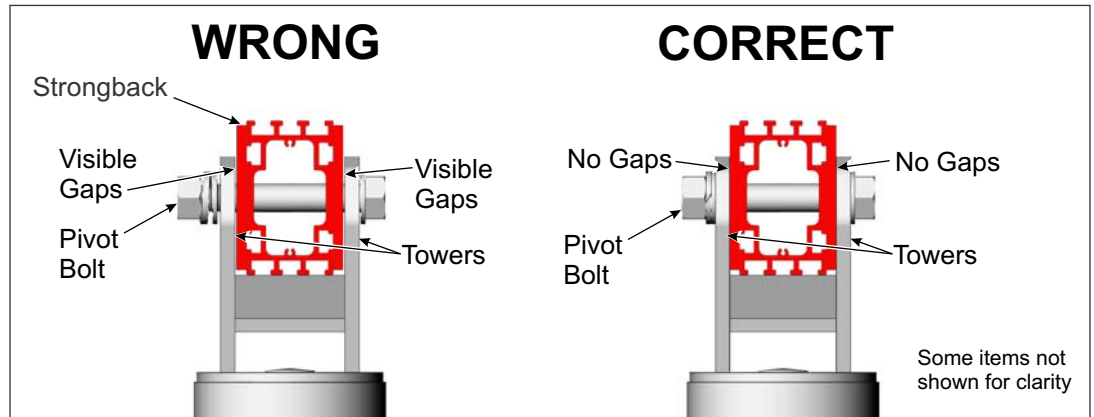

Figure 8-2: Tighten and Torque the Pivot Bolt
- C. Re-tighten the Pivot Bolt. After changing the tilt angle and tightening the Support Bar hardware, the Pivot Bolt must be re-tightened. The Pivot Bolt cannot be left loose - the Mounting Sleeve Vertical Towers must be firmly clamped to the sides of the Strongback eliminating any gaps between the Vertical Towers and the Strongback. **Torque to 125-150 ft.-lbs.** (See Figure 8-2)